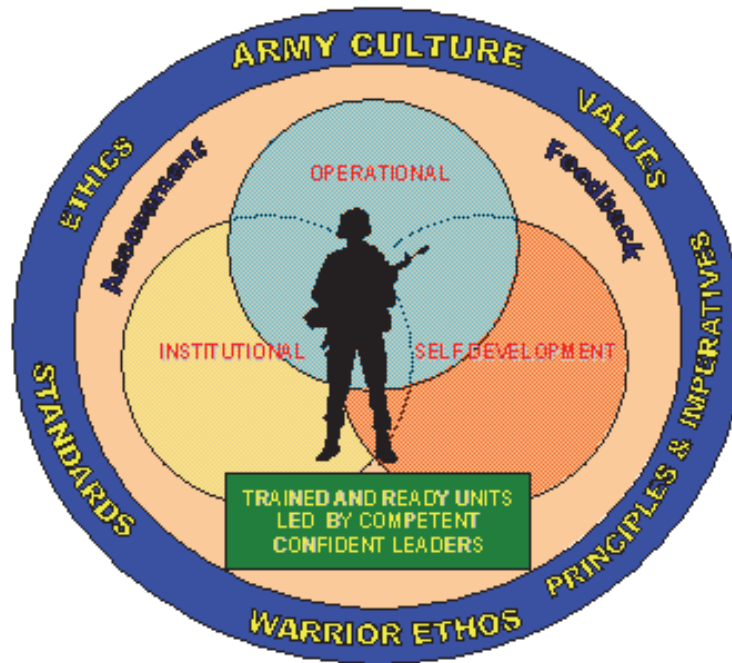

Figure 1-1. Army Training and Leader Development Model
(1) Training is a team effort and the entire Army — Department of the Army, major commands (MACOMs), the institutional training base, units, the combat training centers (CTCs), each individual Soldier, and the civilian workforce — has a role that contributes to force readiness. Department of the Army and MACOMs are responsible for resourcing the Army to train. The Institutional Army, including schools, training centers, and NCO academies, for example, train Soldiers and leaders to take their place in units in the Army by teaching the doctrine and tactics, techniques, and procedures (TTP). Units, leaders, and individuals train to standard on their assigned critical individual tasks. The unit trains first as an organic unit and then as an integrated component of a team. Before the unit can be trained to function as a team, each Soldier must be trained to perform their individual supporting tasks to standard. Operational deployments and major training opportunities, such as major training exercises, and CTCs provide rigorous, realistic, and stressful training and operational experience under actual or simulated combat and operational conditions to enhance unit readiness and produce bold, innovative leaders. The result of this Army-wide team effort is a training and leader development system that is unrivaled in the world. Effective training produces the force — Soldiers, leaders, and units — that can successfully execute any assigned mission.
(2) The Army Training and Leader Development Model (Refer to Figure 1-1.) centers on developing trained and ready units led by competent and confident leaders. The model depicts an important dynamic that creates a lifelong learning process. The three core domains that shape the critical learning experiences throughout a Soldier's and leader's time span are the operational, institutional, and self-development domains. Together, these domains interact using feedback and assessment from various sources and methods to maximize warfighting readiness. Each domain has specific, measurable actions that must occur to develop our leaders.